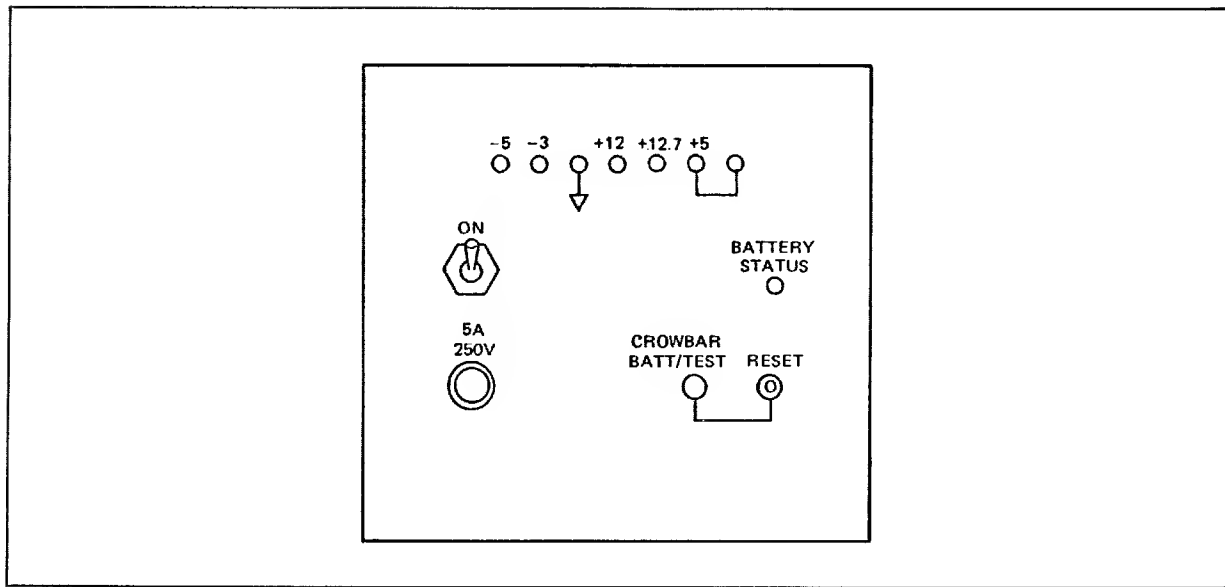

Figure 4-4. HP 30311A Power Supply Front Panel
13. Connect the voltmeter common or return lead to the common symbol jack on the front panel of the HP 30311A Power Supply in the CPU Bay (figure 4-4).